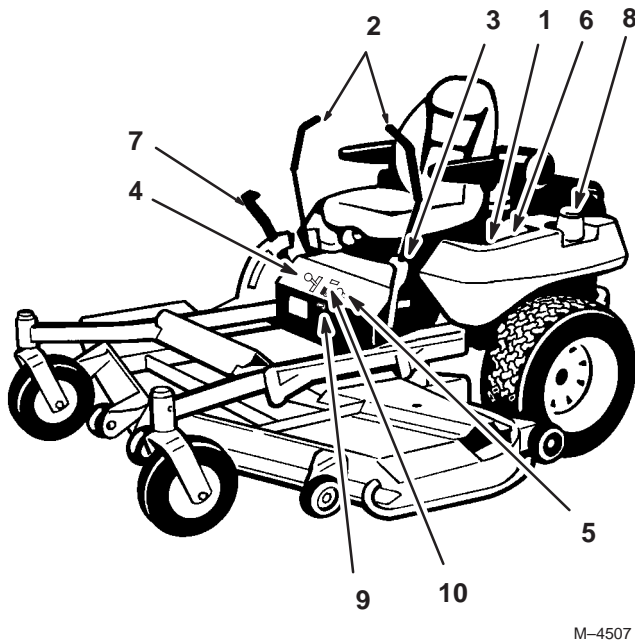

Figure 10
Become familiar with all the controls (Fig. 10) before you start the engine and operate the machine.
1. Move the motion control levers (Fig. 10) out to the neutral lock position.